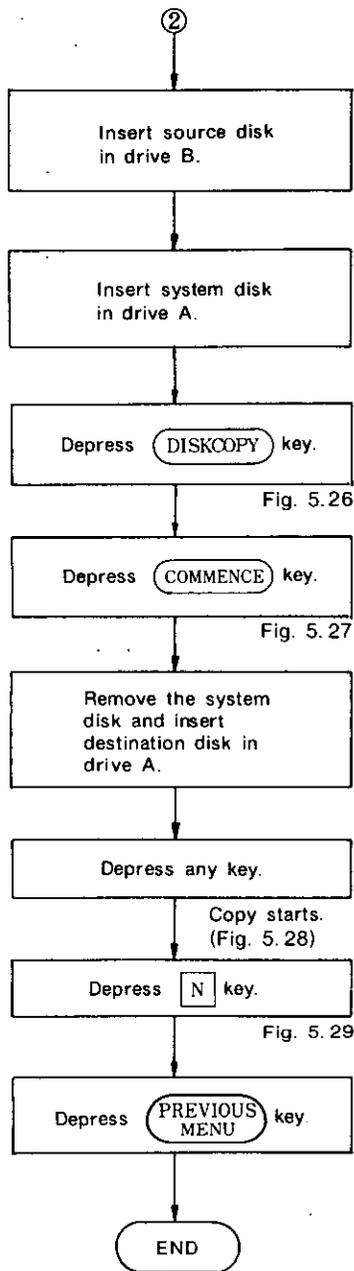

Fig. 5.26
2. Depressing CANCEL key (Fig. 5.26) calls up the display in Fig. 5.23.